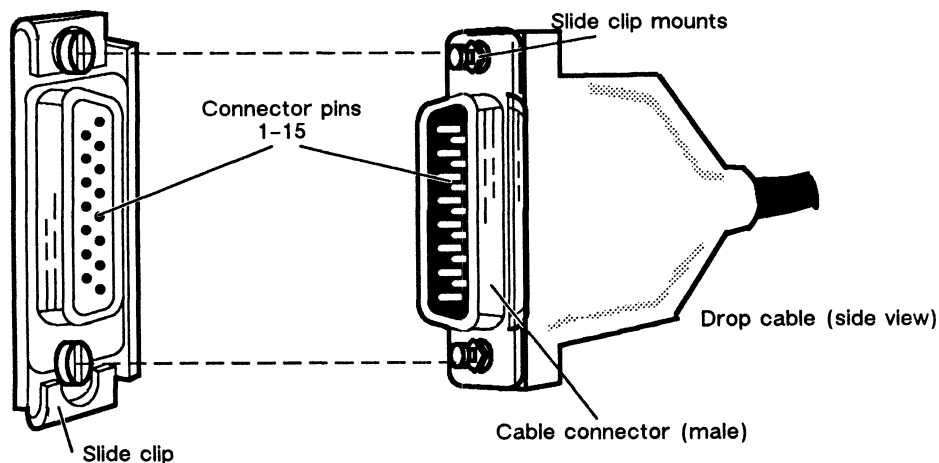

Figure 3-4 Aligning Slide Clip Mounts With a LAN Connector
2. Align the connector pins, clip mounts, and D-shaped bevels as shown in Figure 3-4 before gently pushing the cable connector completely over the rear panel connector. Make certain the slide clip has not hindered a secure connection.